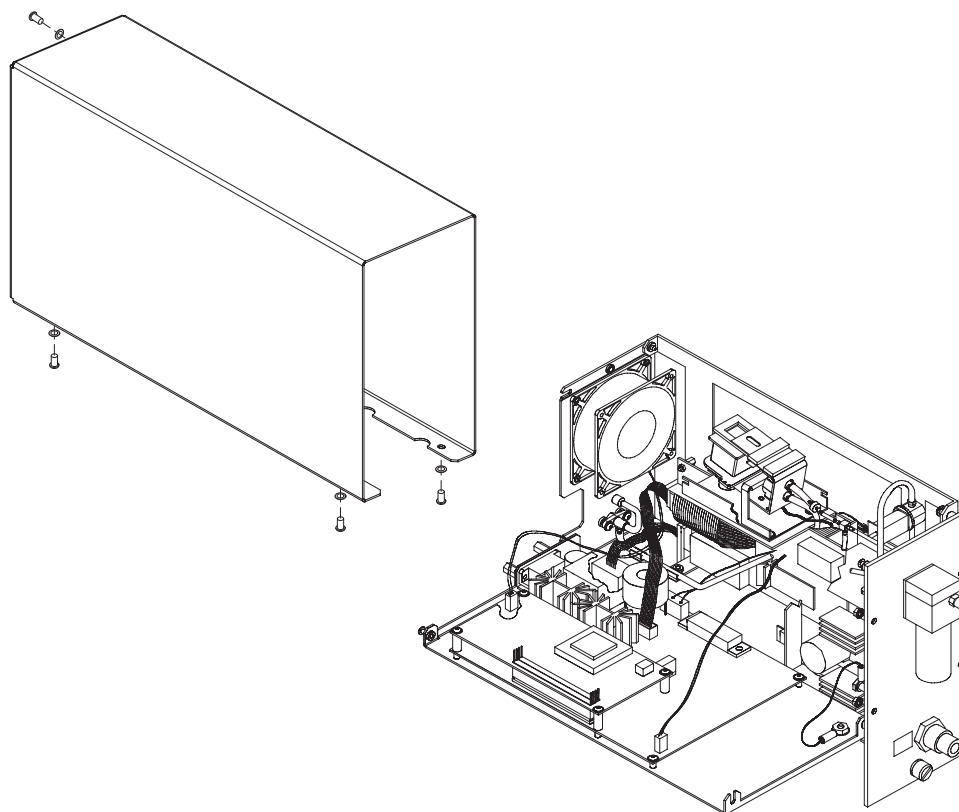

FIGURE 15. Gas Analyzer Assembly
- 7.7 Loosen the two upper screws securing the left side panel of the analyzer and swing open the panel. See Figure 15.